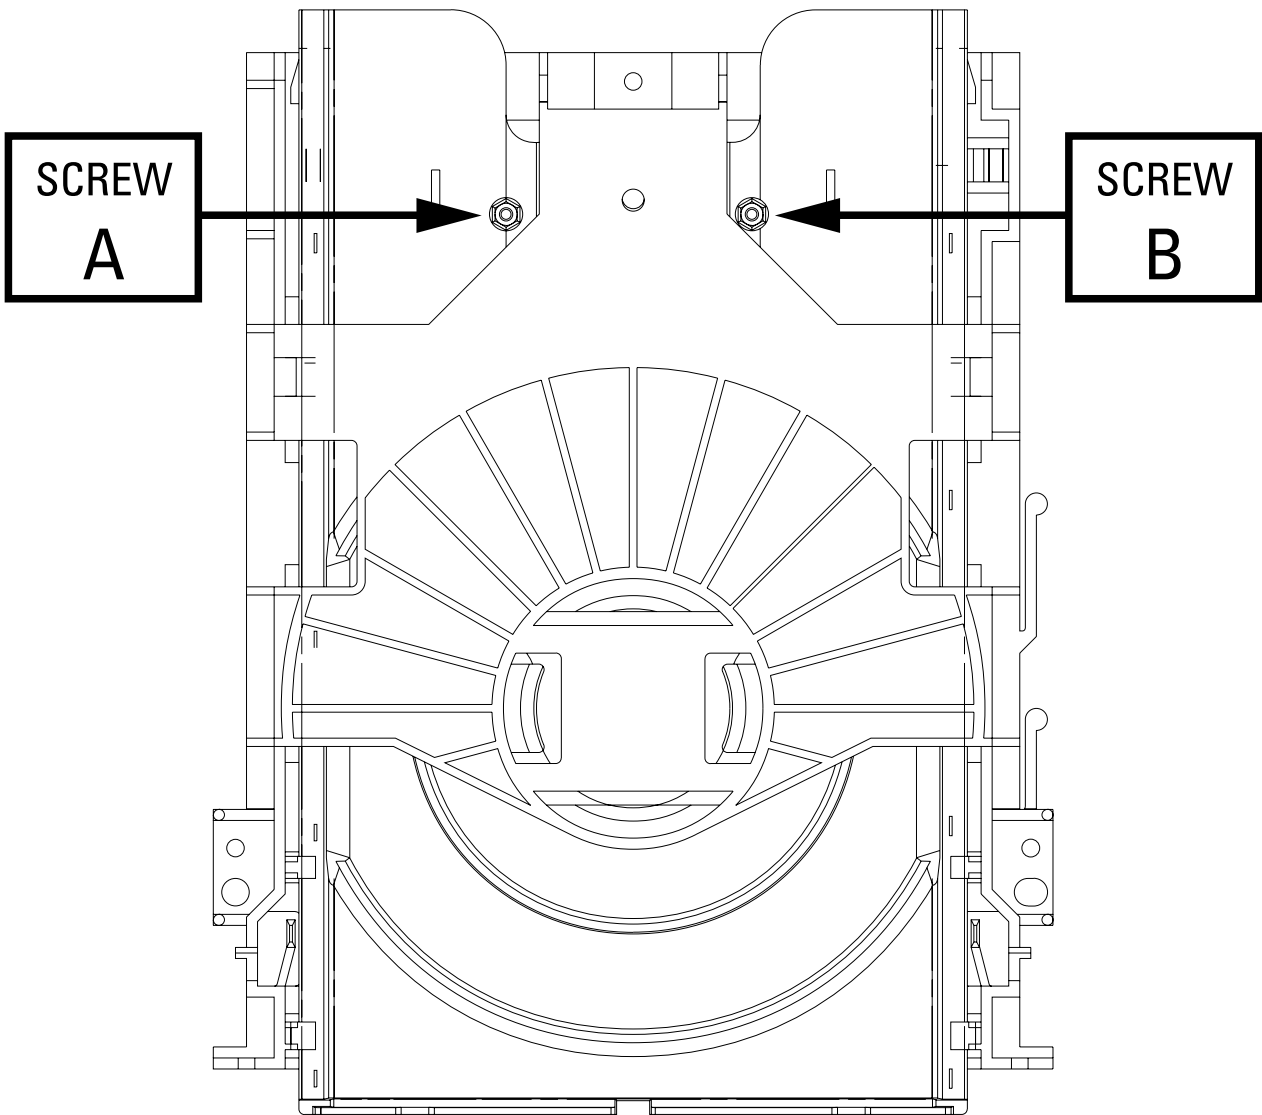

Fig. 6-6 Ass'y Deck (Top Side)
- 3) Adjust the Screws "A" and "B" (See Fig. 6-6) using a Hex screwdriver until you obtain a Flat Waveform and the picture is stable.